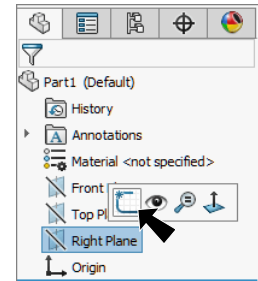
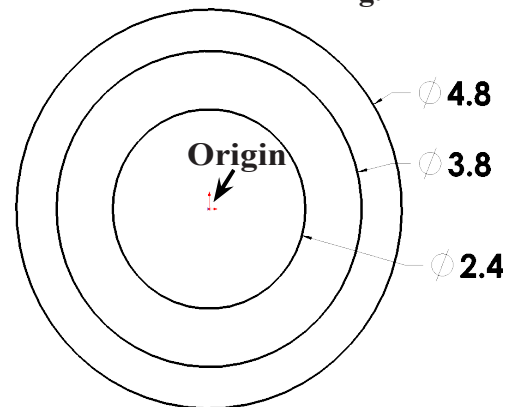

Fig. 1
Fig. 2
Step 2. Click **Right Plane**  in the Feature Manager and click **Sketch**  from the Context toolbar, **Fig. 1**.
Step 3. Click **Circle**  (S) on the Sketch toolbar.
Step 4. Sketch **three circles** starting at Origin , **Fig. 2**.
Step 5. Click **Smart Dimension**  (S) on the Sketch toolbar.
Step 6. Dimension diameters, **Fig. 2**.
Step 7. Click **Zoom to Fit**  (F) on the View toolbar.